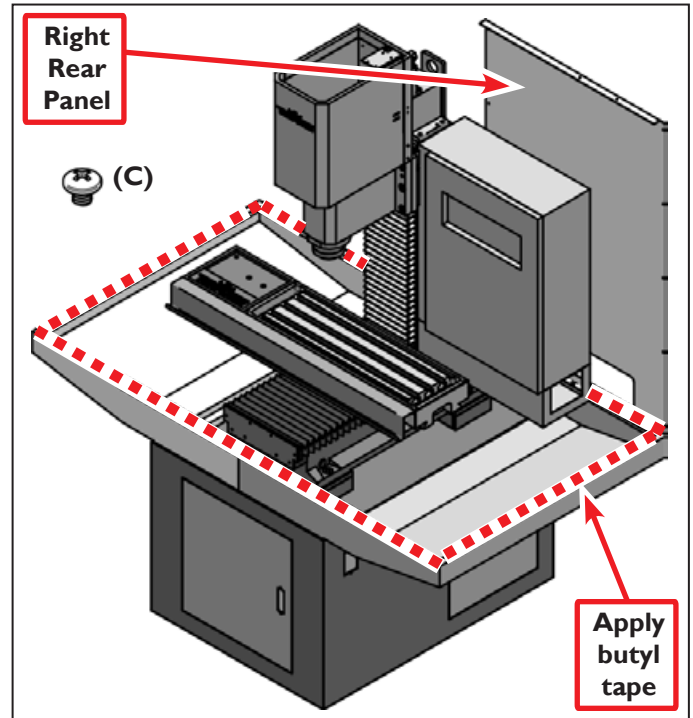

Figure 3
NOTE: Use included butyl tape to create a seal on the stand bed (see **Figure 3**).
7. Place Right Rear Panel (E.25) on top of the right rear side of the machine stand (see **Figure 3**).